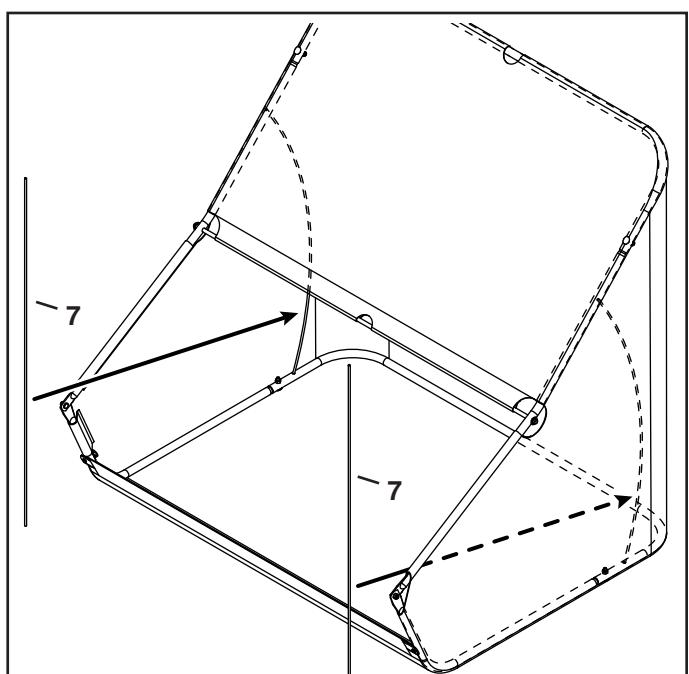

FIGURE 13
22. Insert the hopper support rods (7) into the holes in the upper hopper tubes and then into the rear bottom hopper tubes as shown in figure 13.
**NOTE:** The hopper support rods will bend about as much as shown in figure 13 when they are assembled.